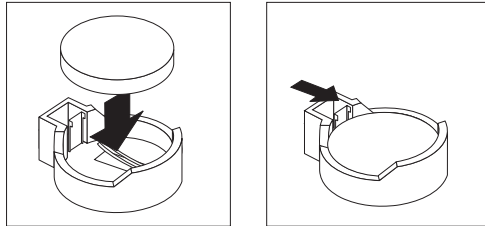

Figure 9. Inserting the new battery
- b. Press the battery down into the socket until it clicks under the battery clip, as shown in Figure 9.